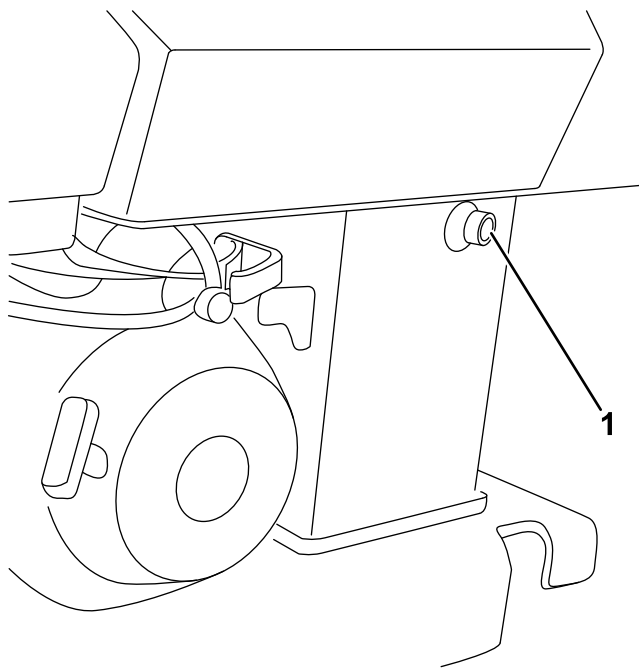

Figure 30
4. Locate the fluid sight gauge (Figure 30) on the side of the hydraulic fluid tank.